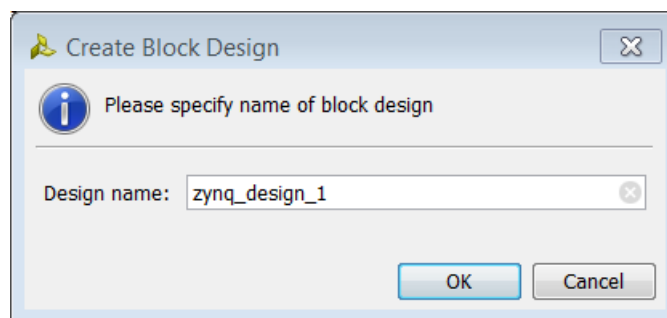

Figure 4: Create Block Design Menu
2. Specify a name for your IP subsystem design (Figure 4).